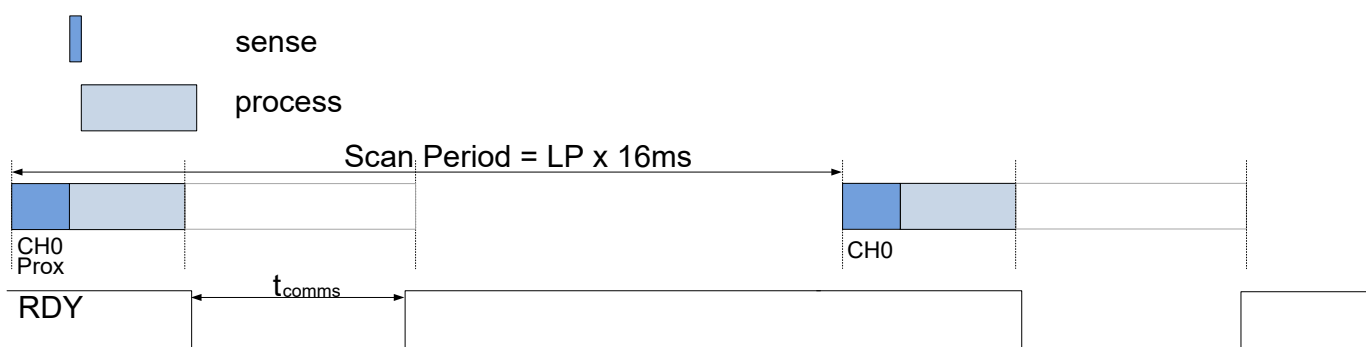

Figure 5.3 IQS333 Charge Cycle Timing in Low Power Mode.
NOTE: While in any power mode the device will zoom to Boost Power (BP) mode whenever the condition $(CS - LTA)^1 > PROX_TH$ or $TOUCH_TH$ holds, indicating a possible proximity or touch event. This improves the response time. The device will remain in BP for t_{ZOOM} and then return to the selected power mode. The Zoom function allows reliable detection of events with counts being produced at the BP rate. The LP charge cycle timing is illustrated in **Figure 5.3**. The bit0 in Register 0x01, byte 0 (Sys_Flags0), will
Adjusting the charge transfer speed will change the charge cycle duration (t_{SENSE}) as shown in **Figure 5.3**.
During any LP mode, only channel 0 is charged every t_{LP} . The LP charge timing is illustrated in **Figure 5.3**.